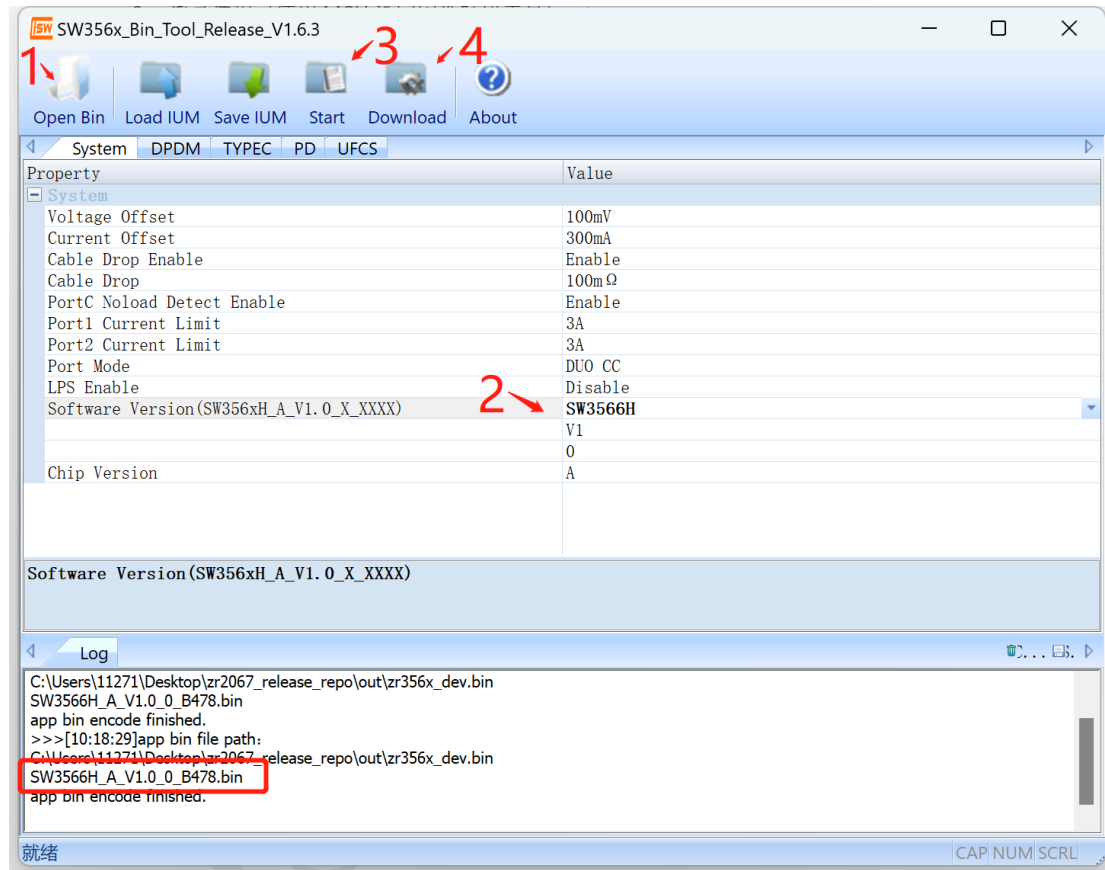

Figure-1
- 3) Run tool “SW356x_Bin_Tool_Release_V1.6.3”as Figure-1 below, click “Open Bin” to select the generated firmware file in step 1;